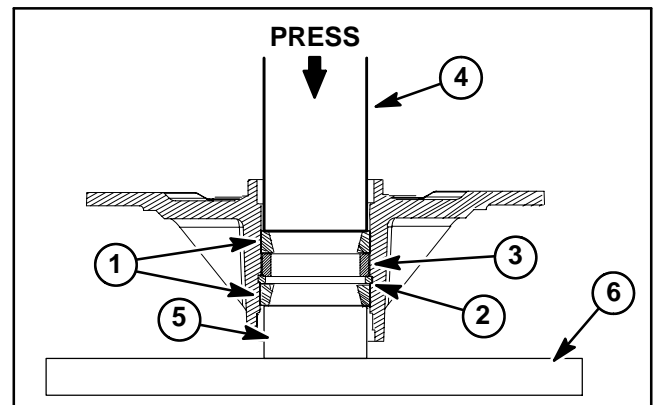

Figure 15
3. Using an arbor press, push the bearing cups into the top and bottom of the spindle housing. The top bearing cup must contact the outer bearing spacer previously installed, and the bottom bearing cup must contact the snap ring. Make sure that the assembly is correct by supporting the first bearing cup and pressing the second cup against it (Fig 15).